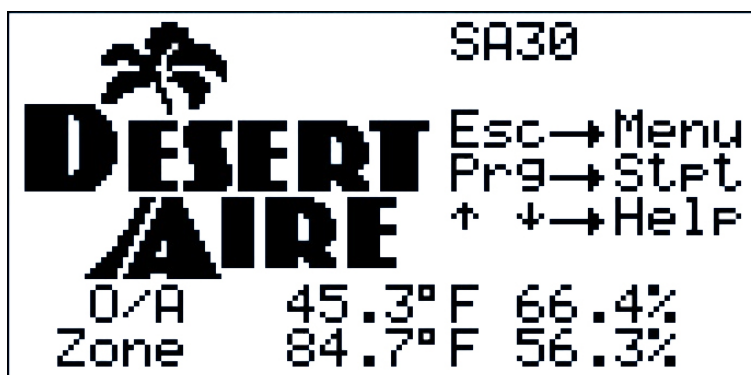

Figure 1
2.1. Menu Overview and General Instructions (Figure 1)
Your Desert Aire controller is pre-programmed and configured at the factory for use in the application you have specified. The internal display terminal (IDT, see Figure 1) allows the operator to monitor and adjust the setpoints of your Desert Aire system. The IDT has an LCD screen and six keys. These keys are labeled as below:
The Home Screen (Figure 1) displays the Desert Aire logo and shows the dehumidifier status, zone temperature and relative humidity and the operational state of the fan, compressor and air heating. The unit type is displayed in the upper right of the screen indicating SP and the tonnage. Below this line, “Esc→Menu” indicates that if the **Esc** key is pressed, the Main Menu will be displayed. Pressing **Esc** on any other screen will take you back one screen. The “Prg→Stpt” indicates that if the **Prg** key is pressed, the setpoints can be changed. The “↑ ↓ →Help” indicates that if the **UP** or **DOWN** keys are pressed, the help screens will be shown. The **UP** or **DOWN** keys will now scroll through the help screens.